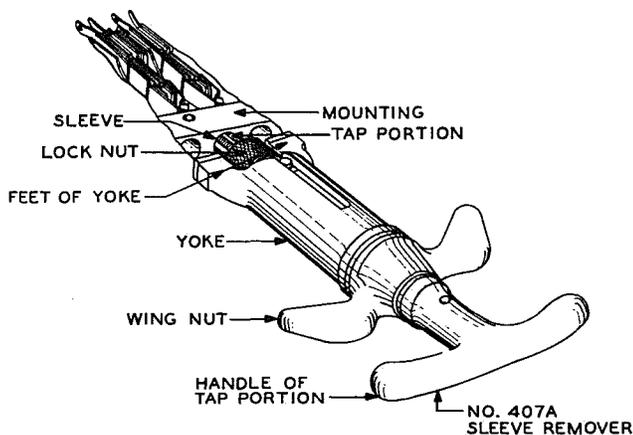

FIG. 3 - METHOD TAPPING SLEEVE WITH NO. 407A SLEEVE REMOVER
3.07 Before using the No. 407A sleeve remover make sure that its entire tap portion extends beyond the feet of the yoke and the knurled lock nut. Screw the tap portion about two or three turns into the sleeve slowly but steadily as shown in Fig. 3 until there is considerable resistance to turning. Screw the knurled lock nut tightly against the face of the sleeve and lock the tool to the sleeve by holding the lock nut firmly while turning the tap portion slightly in a clockwise direction. With a rotary motion